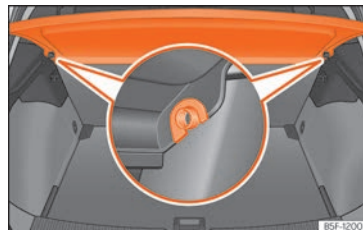

Fig. 109 In the luggage compartment: removing and fitting the shelf.
- Remove the rear shelf from the side supports » **Fig. 109** by pulling it upwards and then take it out.
- Insert the cover horizontally so that the “recess” fits onto the axis of the supports » **Fig. 109** and press down until it engages.